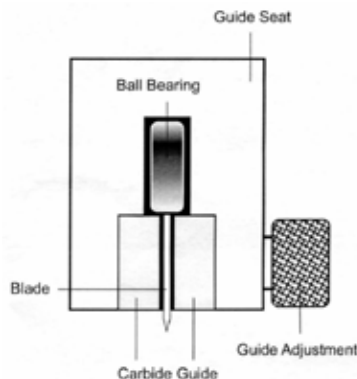
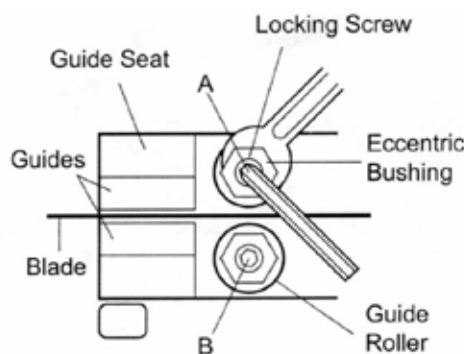

Figure 16. Guide Roller Adjustment
Figure 17. Guide Rollers
NOTE: In Figure 17, only bearing A is adjustable. Bearing B is fixed.
2. Loosen blade guides by loosening guide adjustment screw (Figure 16) and hex socket cap screw (Figure 17, A).
4. Adjust the eccentric bushings with a combination wrench until the ball bearings are snug to the blade (Figure 17, A).
5. Tighten locking screws (Figure 17, A).
6. Slide blade guides back into contact with blade and tighten thumb screw (Figure 16) and hex socket cap screw (Figure 17, A).